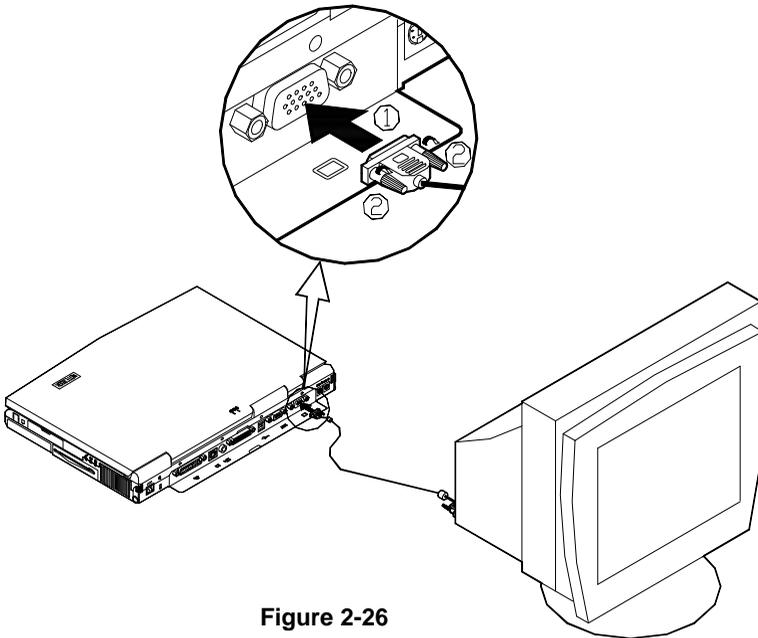

Figure 2-26
3. Tighten the screws that fasten the cable to the CRT port (Figure 2-26).